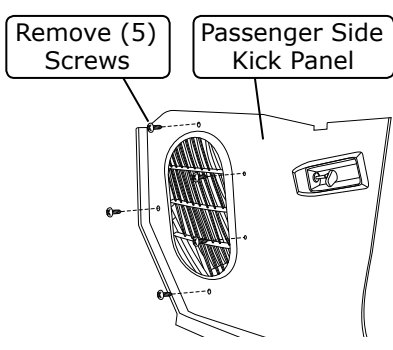

Figure 4
16. Remove the passenger side kick panel by removing (5) screws (discard screws) (See Figure 4, below).
17. On 1968 models, remove the driver and passenger side louvers by removing (2) mounting screws from each louver bezel (See Photo 9, below).